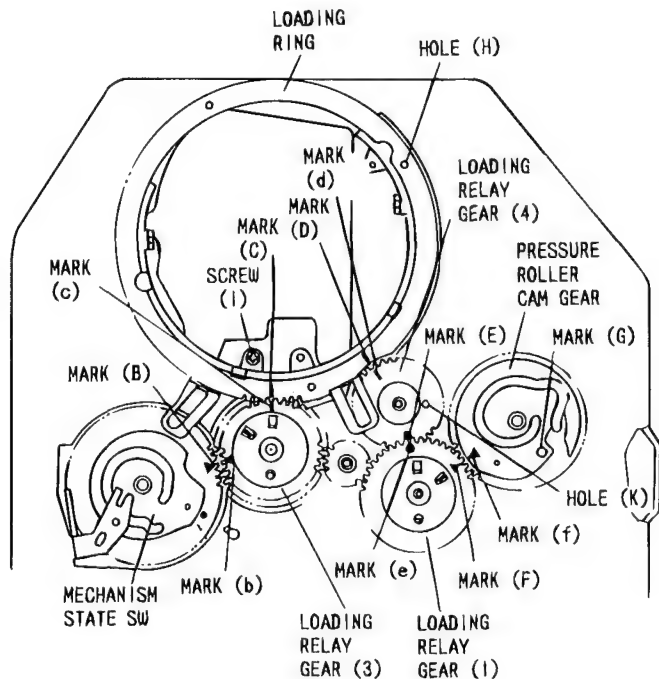

Fig. 3-2
(Figs. 3-2, 3-3)
- 1) Align the markings of the loading ring and gears as shown in Fig. 3-2.
- (1) Set the upper and lower loading rings to the state shown in Fig. 3-2. (Watch the guide roller fixing section.)
- (2) Move the upper and lower loading rings so that holes (H) overlap each other.
- (3) If holes (H) overlap each other, the phase of the loading ring is correct.
- (4) If holes (K) overlap each other, the phase of the loading relay gear (4) is correct.